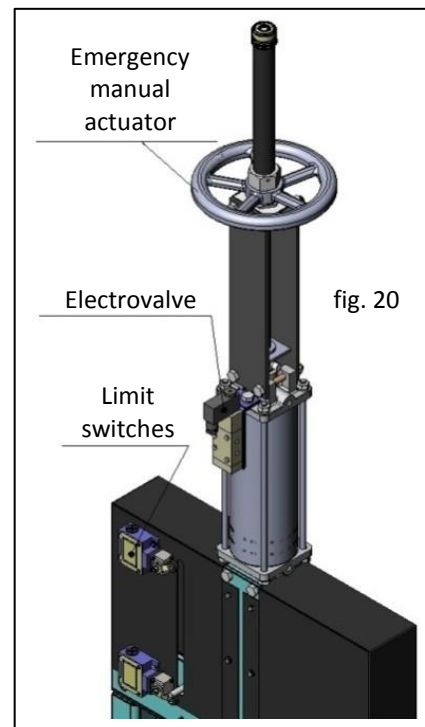

fig. 20
**- Mechanical limit switches, inductive switches and positioners (fig. 20):**
**- Electrovalves (fig. 20):**
Allows manual operation of the penstock in the event of power or air failure (Fig. 20).